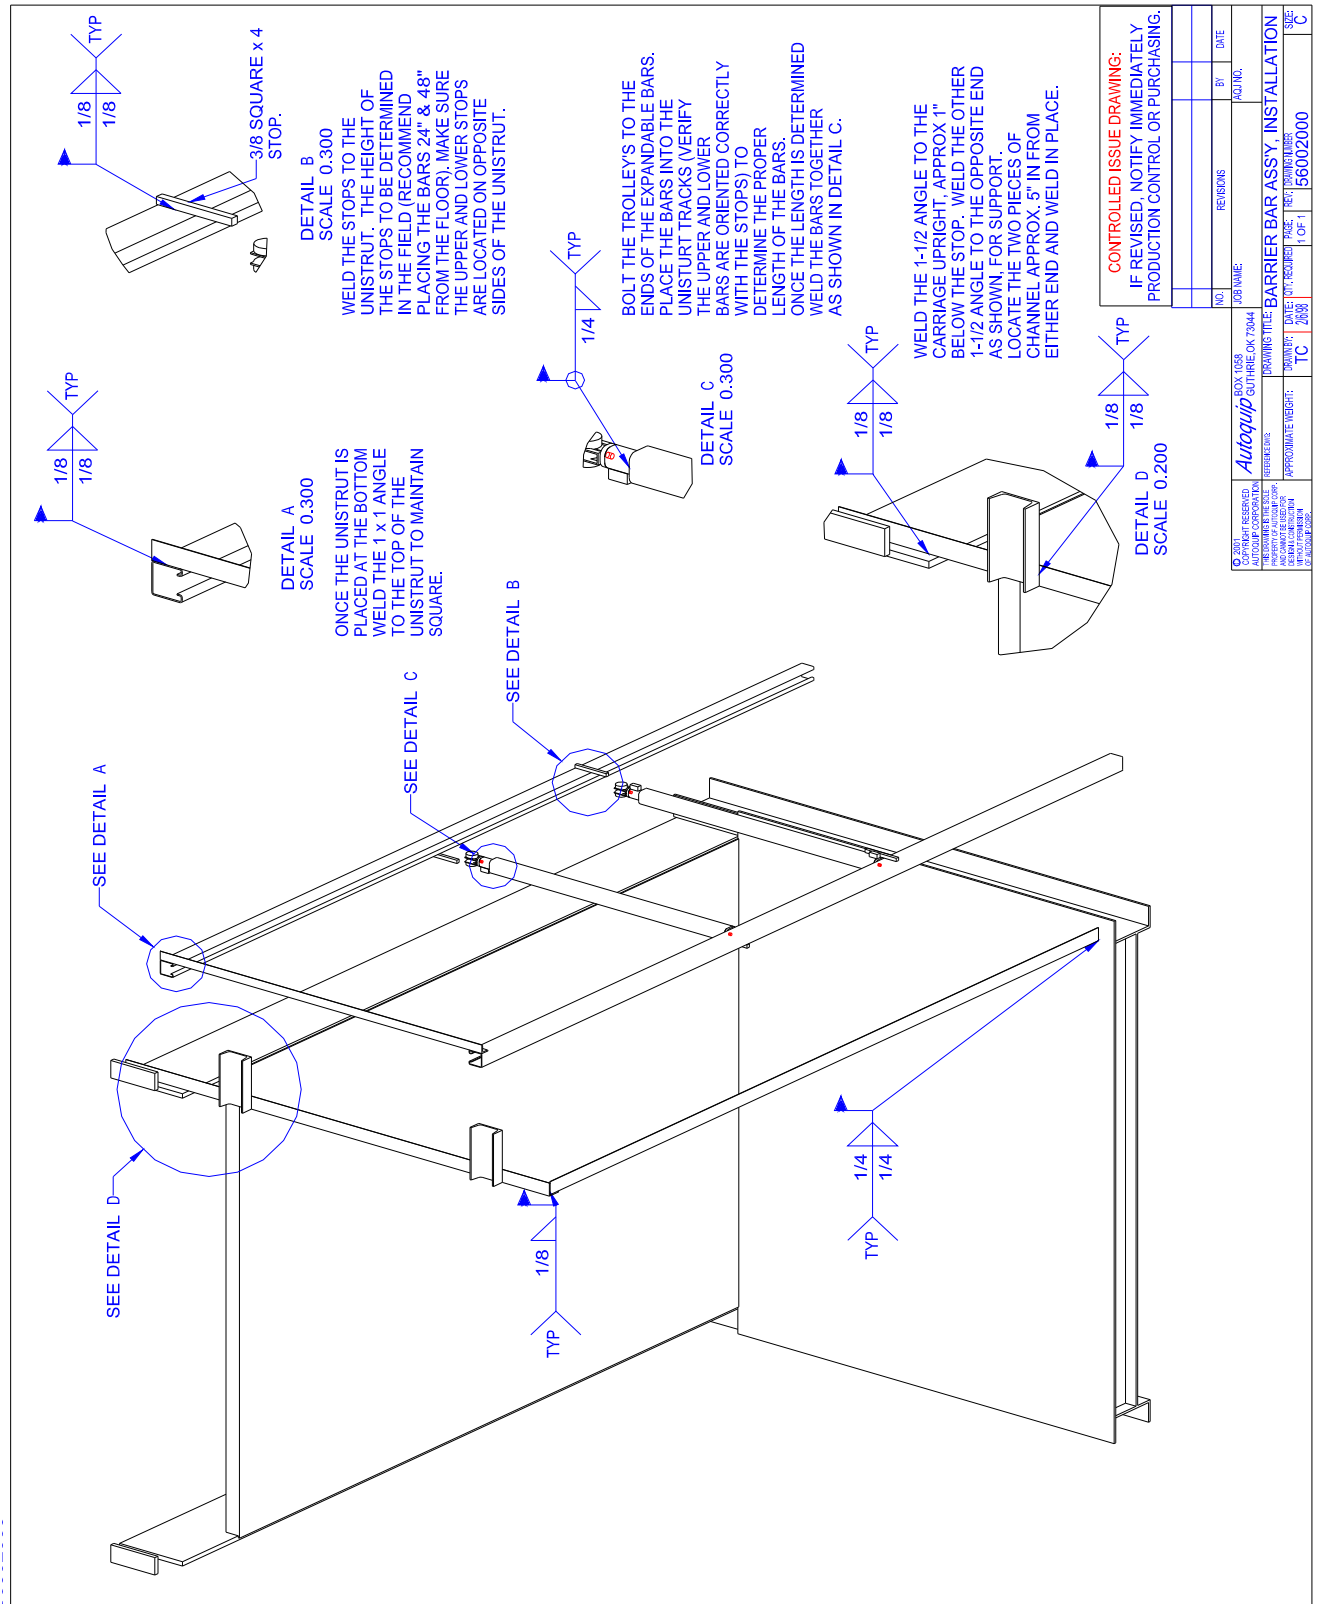

Figure 24 Barrier Bar Installation Details (when required)
2. All gates or doors accessing the lift must have electrical contacts and mechanical locks to prevent the lift from operating if a gate is left open. The gate should lock until the carriage is at the nearest landing. There are many variables that can affect your installation: the type of gate; the type of door; conditions unique to a specific site. One (1) to four (4) electrical sensing or signaling devices are supplied with each gate that incorporates the standard interlock design.
Figure 24 illustrates the contents and installation details for the shaftway barrier bar system supplied for units in shaftway applications. The barrier bar system is designed to leave (1) mid and (1) top rail across the door opening at the upper level when the carriage is called to the lower level.